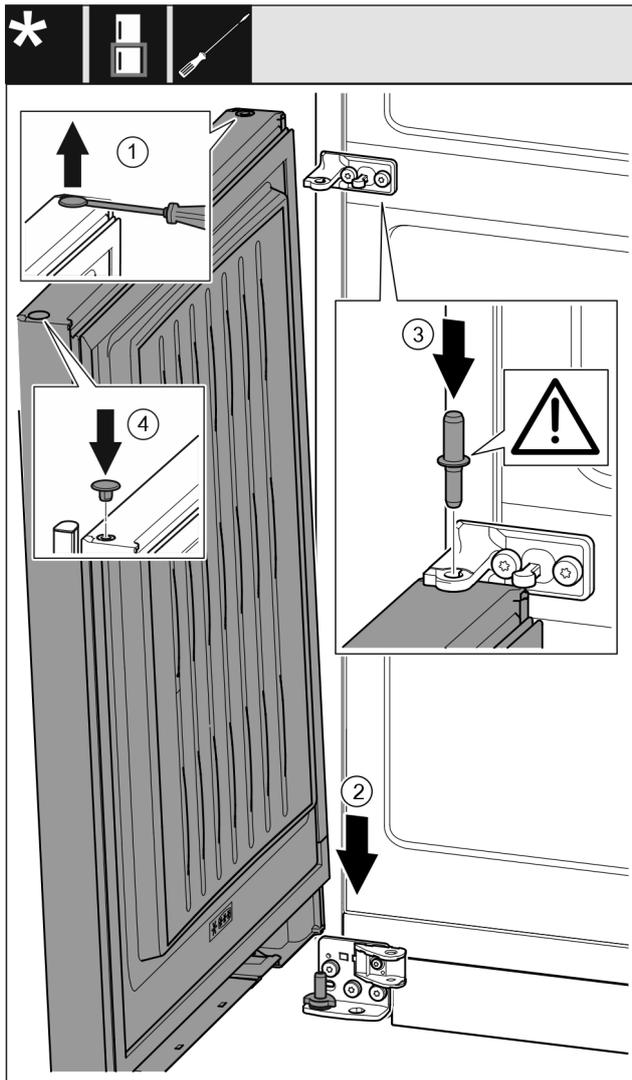

Fig. 44
- ▶ Use a slotted screwdriver to lift the plug Fig. 44 (1) carefully and pull it out.
- ▶ Lower the door Fig. 44 (2) onto the bottom bearing bolt.
- ▶ Insert the centre bearing bolt Fig. 44 (3) through the centre bearing block in the lower door. Ensure that the latching cam is pointing towards the rear.
- ▶ Re-insert the plug Fig. 44 (4) on the other door side.